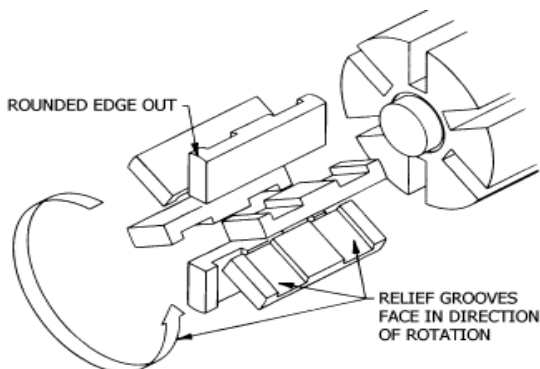

Figure 4 – Vane Replacement
4. Install a new vane, ensuring that the rounded edge is UP, and the relief grooves are facing towards the direction of rotation. See Figure 4.
8. Remove the vanes (14) and push rods (77) from the rotor and shaft assembly. Inspect for wear and damage, and replace as follows:
a. Partially install the non-driven end of the rotor and shaft (13) into the open side of the pump cylinder.
b. Leave part of the rotor outside of the cylinder so that the bottom vanes can be installed and held in place as the push rods are installed in the push rod holes of the rotor. Insert the new vanes into the rotor slots with the rounded edges outward, and the vane relief grooves facing TOWARDS the direction of rotation. Refer to Figure 4 in "Vane Replacement."